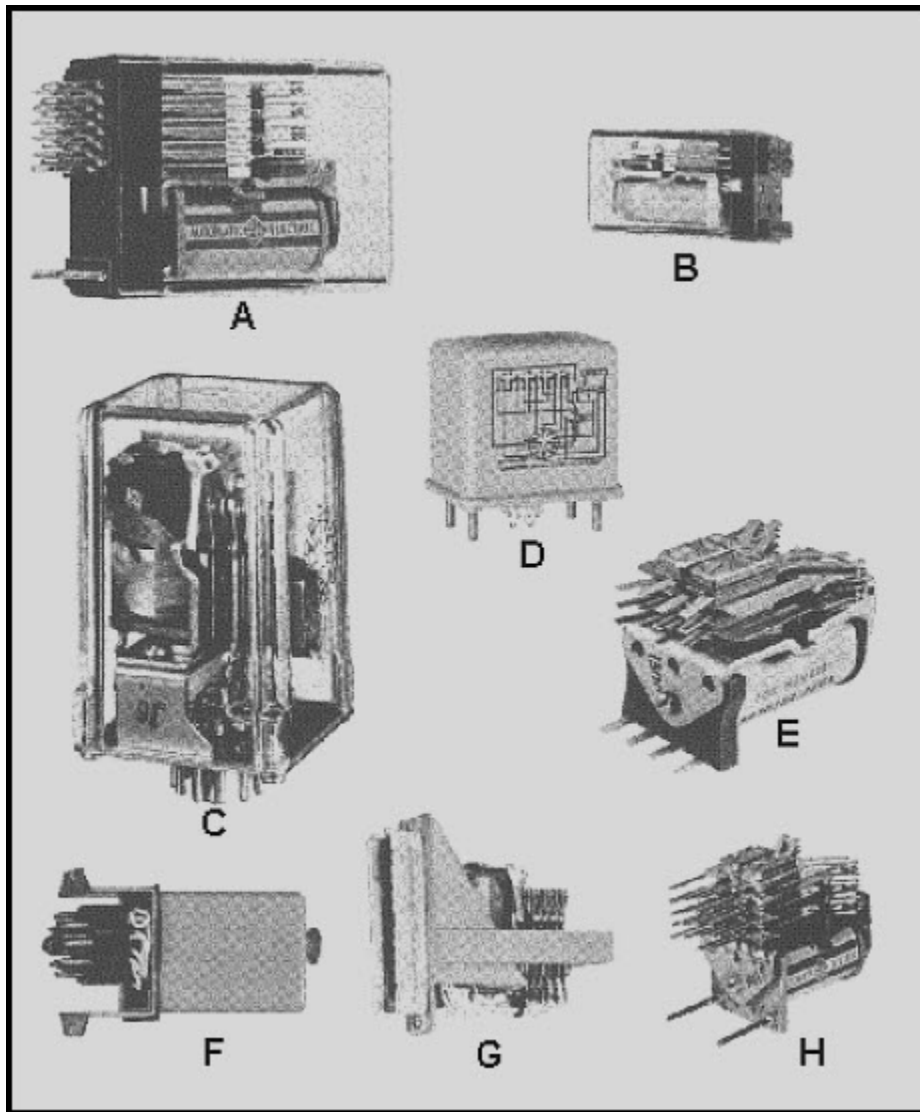

Figure 3-24 A thermal time-delay relay
Relays can be described by the method of packaging; open, semisealed, and sealed. Figure 3-24 shows several different relays and illustrates these three types of packaging.
Figure 3-24 (E), (G) and (H) are open relays. The mechanical motion of the contacts can be observed and the relays are easily available for maintenance. Figure 3-24 (A), (B) and (C) are semisealed relays. The covers provide protection from dust, moisture, and other foreign material but can be removed for maintenance.
The clear plastic or glass covers provide a means of observing the operation of the relay without removal of the cover. Figure 3-24 (D) and (F) are examples of a hermetically sealed relay. These relays are protected from temperature or humidity changes as well as dust and other foreign material. Since the covers cannot be removed, the relays are also considered to be tamper-proof. With metal or other opaque covers, the operation of the relay can be "felt" by placing your finger on the cover and activating the relay.